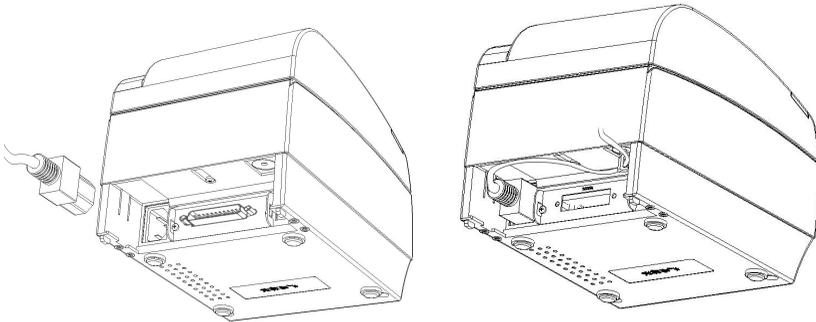

Fig. 4.3-1
- 3) Fix the power cable cord in the printer with a clip as shown in Fig. 4.3-1.